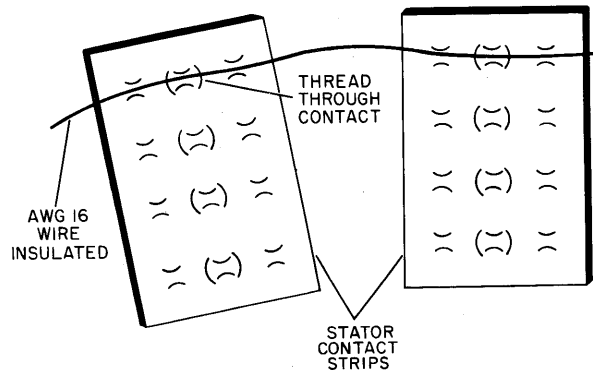

Figure 1-4. Stator Contact Strips, Contacts Open
(1) Thread one 5-inch length of AWG.16, single-strand insulated wire through each row of horizontal contacts on inner stator contact strips (figure 1-4). The wire should allow the contacts to open slightly in order to engage 100kc/10kc turret assembly wafers.